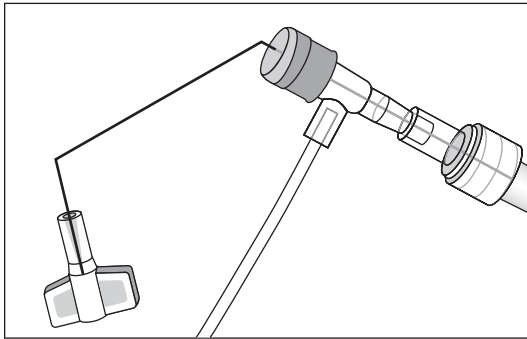

Figure 2
- Kink proximal end of placement wire at connector with side-port (refer to Figure 2) to reduce risk of placement wire extending beyond distal tip of catheter during insertion.